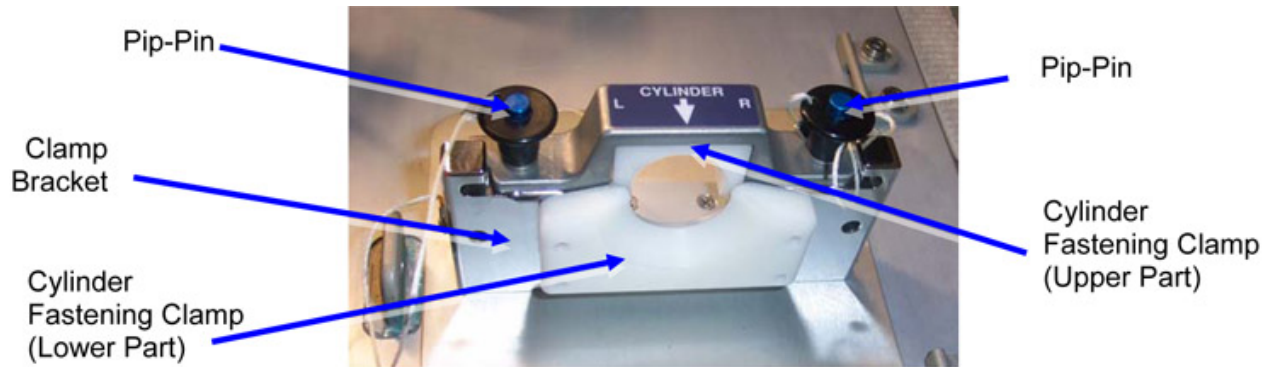

Figure 1-3 Cylinder (O2 Bottle) Fastening Clamb (Launch Configuration)
- 1.2 Release (tethered) pip-pins (2) and remove cylinder fastening clamp upper & lower part. Refer to Figure 1-3.